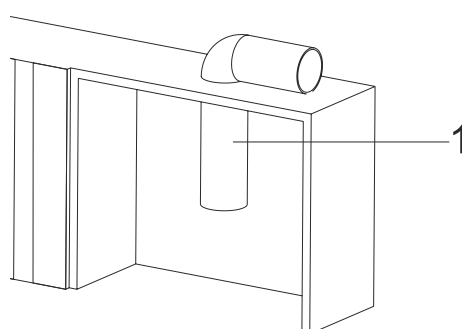

Fig. 12
2. ➔ Bring the air exhaust pipe to the cabin in which the appliance will be mounted on (Fig. 12).